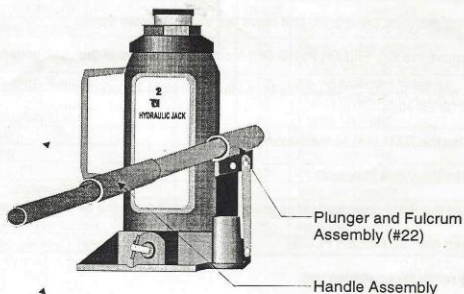

Figure 4 -- Raising the Ram
Step 7: Begin lifting by pumping the Handle Assembly as shown in Figure 4.